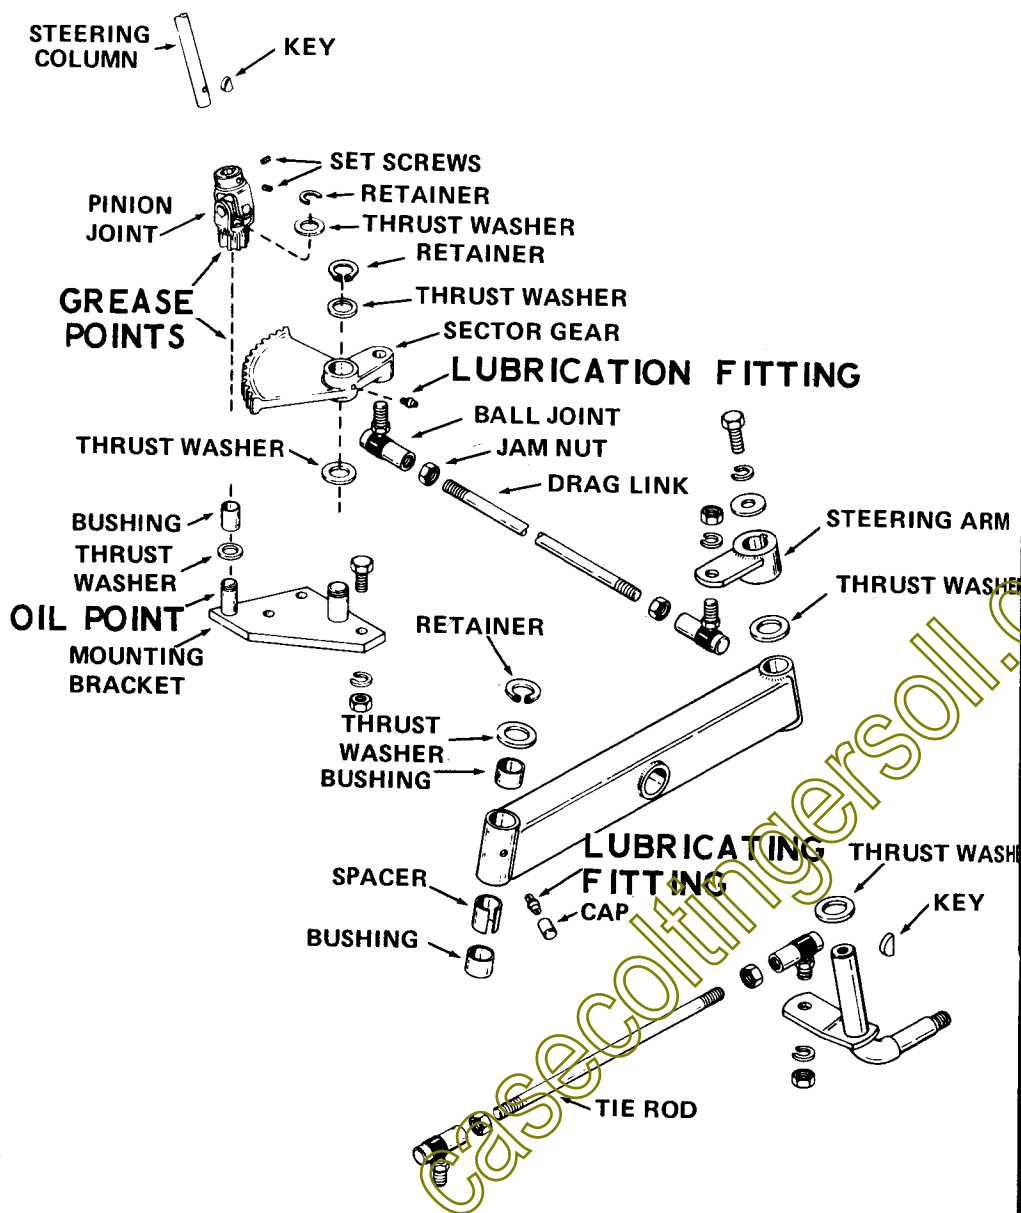

FIGURE 26
**STEERING WHEEL FREE PLAY**--Free play should not exceed two inches at the outside diameter of the steering wheel. If free play is excessive, first check to make certain all ball joints are properly tightened to the king pins, tie rod, steering arm, sector gear and drag link. Visually check each pivot point in the steering system to determine the source of free play. Thrust washers and bushings are located at the front axle, pinion joint and sector gear as shown in Figure 26.